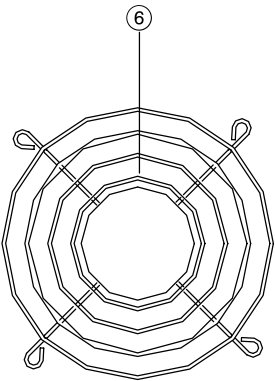

Fig. 11 Protective screen, front view
6. Secure protective screen ⑥ (fig. 11) into place, using the four stainless steel screws and plugs provided.